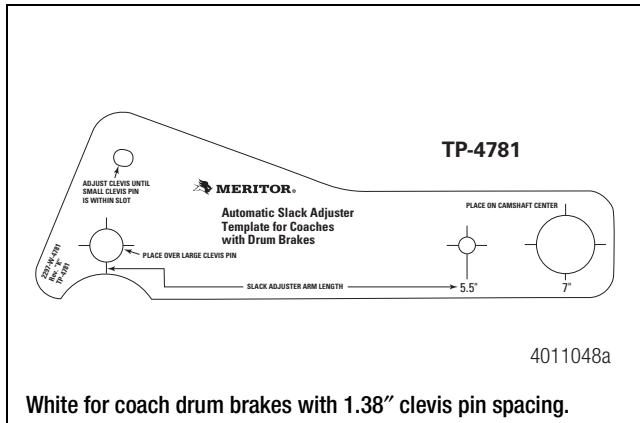
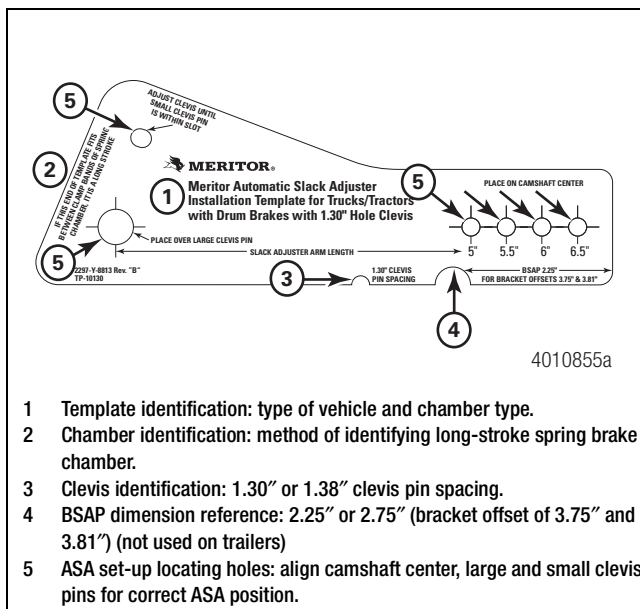

Figure 5.19
Figure 5.20
1. Use the correct Meritor automatic slack adjuster template to measure the length of the slack adjuster. Figure 5.15, Figure 5.16, Figure 5.17, Figure 5.18, Figure 5.19 and Figure 5.20. The marks by the holes in the small end of the template indicate the length of the slack adjuster. Refer to Table E.